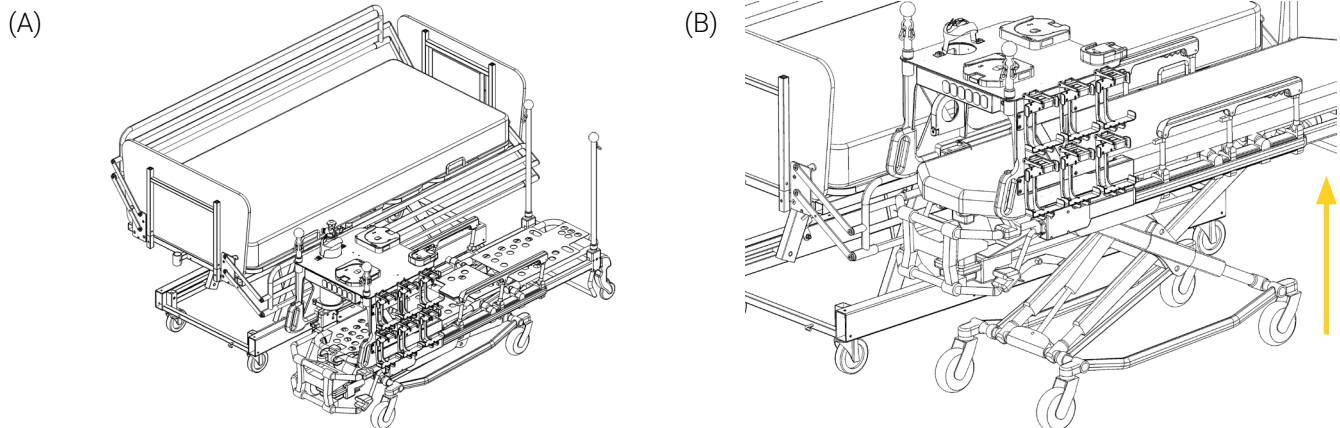

Figure 3: Stretcher position for lateral transfer
2. Position the stretcher on patient left to prepare for the lateral transfer (Figure 3 A).
3. Lift the stretcher parallel to the bed using the mechanism (Figure 3 B). If required, refer to the stretcher operation manual for proper use and recommendations.
4. Straighten the stretcher wheels, ensuring that the longer side of the wheel is facing patient foot end, then apply the brakes (Figure 3 B).